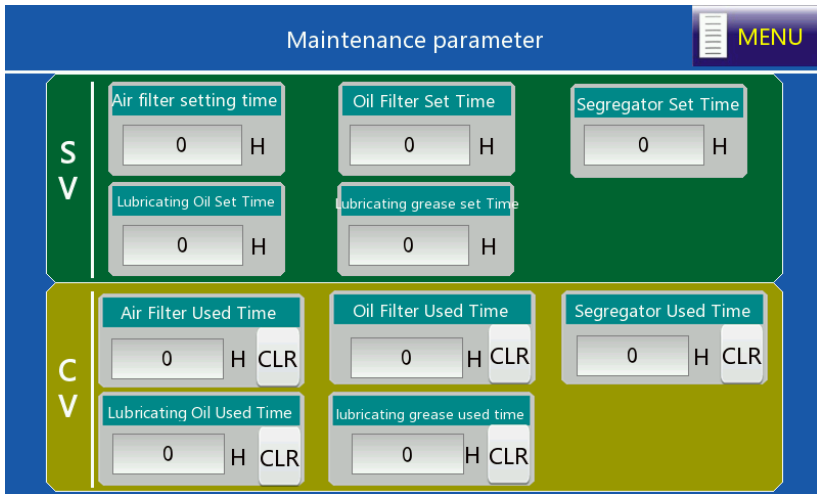

Figure 4-11 Maintenance parameter interface
7. Choose **Maintenance parameter** in the menu, and the interface is displayed, as shown in Figure 4-11.